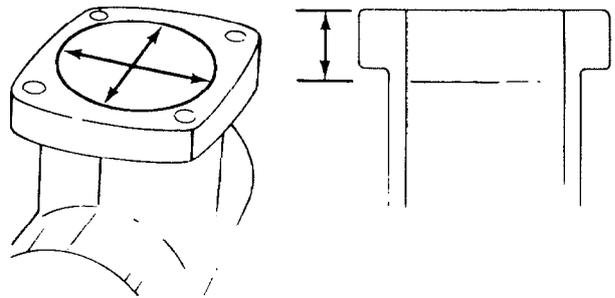

Figure 247 — Measuring Cylinder Bore
- x. Measure the cylinder bore for out-of-round and wear 25.4 mm (1.00 in.) below the top of the crankcase using an internal micrometer (see Fig. 247). The standard bore diameter is 92.08-92.10 mm (3.625-3.626 in.). If the bore diameter exceeds 92.164 mm (3.6285 in.) the bore will require reboring.